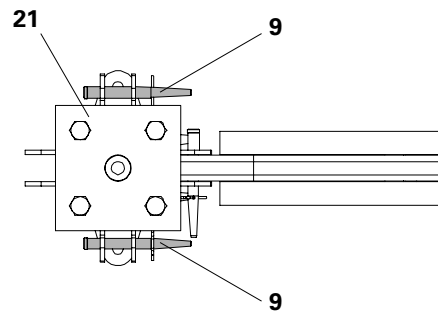

Fig. F3.03a
The lifting gear is attached to 4 Lifting Pins $\text{Ø } 21 \times 120$ (9) which are mounted on the Prop Connector VST 48 (21). (Fig. F3.03a)